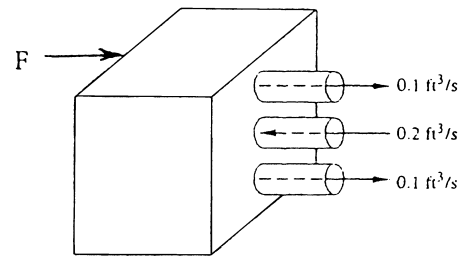

Fig. P3.65
3.65 The box in Fig. P3.65 has three 0.5-in holes on the right side. The volume flows of 20°C water shown are steady, but the details of the interior are not known. Compute the force, if any, which this water flow causes on the box.